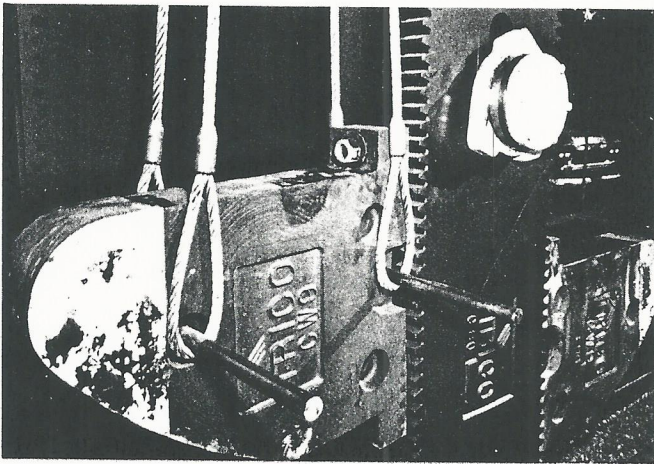

Figure 6 — Installing counterweights.
- With cranks in vertical position, rig sling system to hang counterweights in vertical position (Fig. 6).